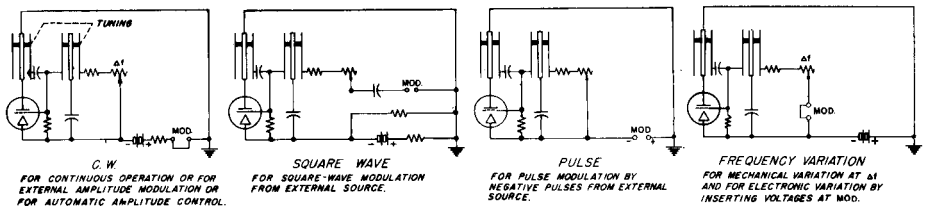
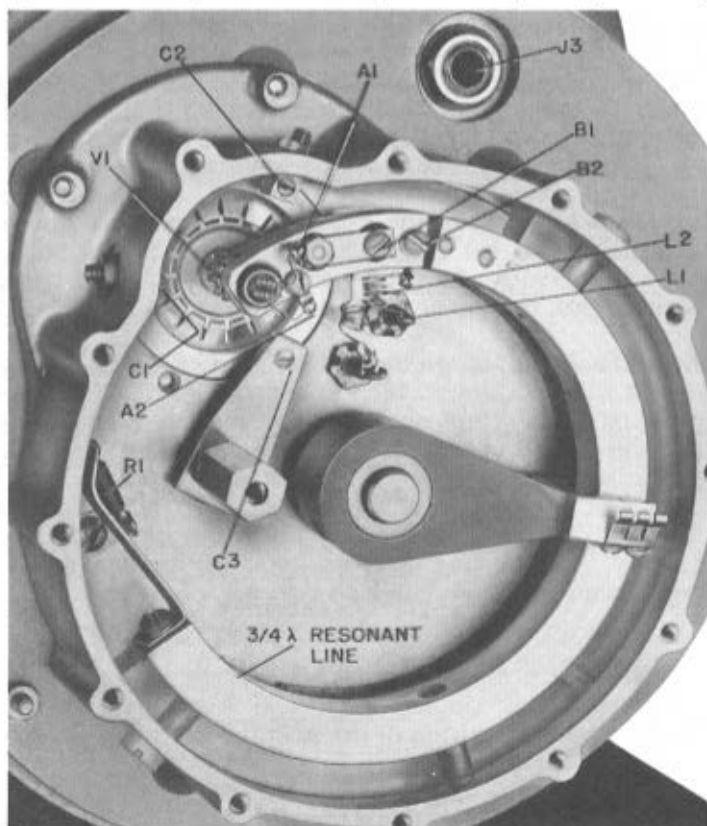

Figure 3. Elementary Wiring Diagram for Various Modulation Conditions.
Figure 8. Right-Hand End of Oscillator, Cover Removed.
2.4 MODULATION. A three-position switch on the front panel selects the desired operation, and allows the application of external control or modulating voltages at a telephone jack. Schematic diagrams corresponding to the switch positions are shown in Figure 3.
2.6 SQUARE-WAVE MODULATION. Amplitude modulation, obtained by ac voltages superimposed on the dc plate voltage of the oscillator tube, introduces undesirable frequency modulation, which increases rapidly with carrier frequency. Square-wave modulation that turns the oscillator on and off eliminates this difficulty. Ordinarily considerable square-wave power is required to turn the oscillator off completely or to give large output if the dc plate voltage is eliminated. To obtain satisfactory operation with low power, the circuit is changed with the selector switch in the SQUARE WAVE position, as shown in Figure 3. The large resistor, R6, in the grid circuit is no longer bypassed by R2 and R3 and makes the oscillator unstable so that it can be modulated with relatively low power. Good square-wave modulation from about 100 to 5000 cps can be obtained, with square-wave input as shown in Figure 4. Figure 5 shows the output produced if sine waves are applied with the selector switch in the SQUARE WAVE position. In square-wave modulation, plate current flows only half the time, and the voltage drop in the large plate circuit series resistor is reduced. To prevent a rise of voltage at the oscillator tube, a shunt resistor (R9) is added when the selector switch is in the SQUARE WAVE position.
2.8 FREQUENCY INCREMENTS. Small frequency variations, of the order of 20 kc to 100 kc, can be obtained as the resistance in the grid circuit is varied mechanically. The 1000-ohm resistor (Δf) at the top of the main casting is provided for this purpose. In series with this variable resistor is a fixed resistor of 2000 ohms and a telephone jack that is normally closed. (See Figure 3.) An increase in the grid circuit resistance beyond 3000 ohms tends to make the oscillator unstable, but bias voltages with low internal impedance can be introduced at the telephone jack to change the frequency by about 0.1 percent. Since the entire grid circuit is below ground potential, the grounded modulator jack on the front panel cannot be used for this purpose, and a second jack has been provided. (See J3, Figure 8.) The circuit can be used for electronic frequency control in a closed-loop system as well as for frequency modulation and for sweeping. Sweeping with the saw-tooth output of an oscilloscope can be used for panoramic presentation.
4.1 PLATE CIRCUIT MODULATION. For unmodulated output, automatic output control, or amplitude modulation, place the MOD. switch in the CW position. As shown in Figure 3, the plate circuit can be opened by means of a phone plug at the MOD. jack on the front panel. This permits the insertion of control voltage or a variable control resistance. One side of the jack is ground. A voltage that is positive with respect to ground reduces the output.
5.2.3 REMOVAL OF OSCILLATOR TUBE. (See Figure 8.) The Type 5675 Oscillator Tube used in the Type 1218-A Unit Oscillator has no socket. The two heater leads are connected to the heater terminals (A_1 , A_2) by small, bare wires, which are soldered to the heater terminals and wound around the heater leads. To remove the tube, unsolder the leads from the terminals and unwind them from the heater leads. Lift out the short extension of the cathode line at the tube end after removing two small screws (B_1 , B_2). Loosen screws (C_1 , C_2 , and C_3) and remove the pressure ring that holds the two tube clamp rings. When installing a tube, insert the first tube clamp ring with the fingers bent up, plug the tube into the end of the plate line and insert the second tube clamp ring with the fingers bent down. After installing the pressure ring and the end section of the cathode line, solder new wires to terminals (A_1 , A_2) and wrap carefully around the cathode leads of the tube. (No. 30 bare copper wires are supplied for this purpose.)